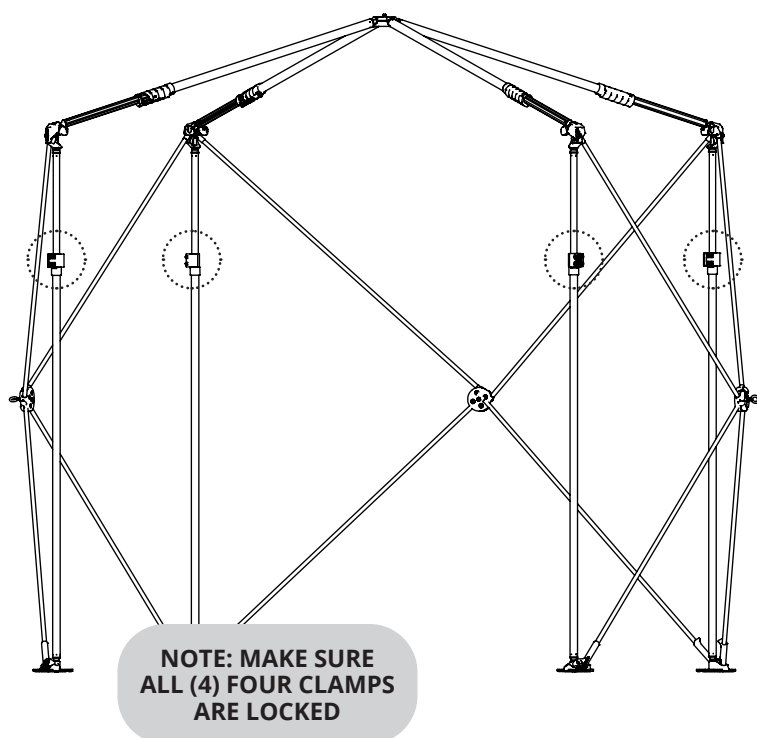

FIGURE 6
9. Repeat steps 6 & 7 for the remaining two (2) corners.
All four (4) vertical spreader poles should be installed. Ensure all four clamps are in the locked position. **SEE FIGURE 6.**